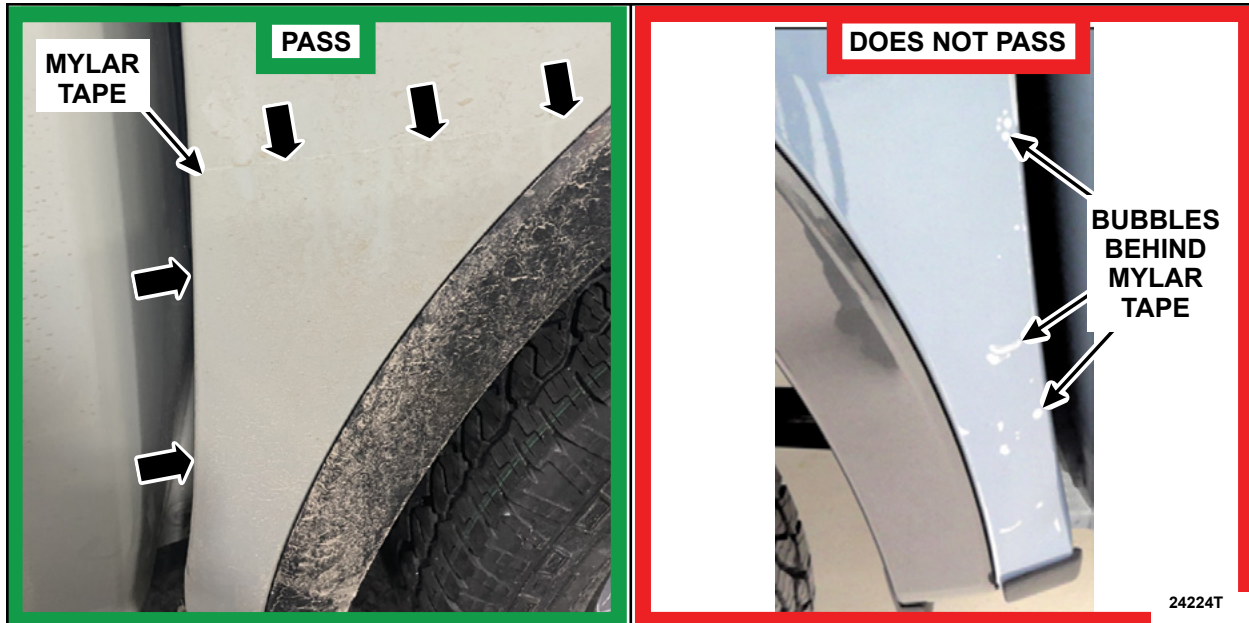

FIGURE 7
12. **Vehicles without running boards.** Verify that the mylar tape, located on the lower quarter of the vehicle body (Fenders, Doors and sides of the Pickup Box), is present, free of any bubbles or dirt and not damaged. See Figure 7.